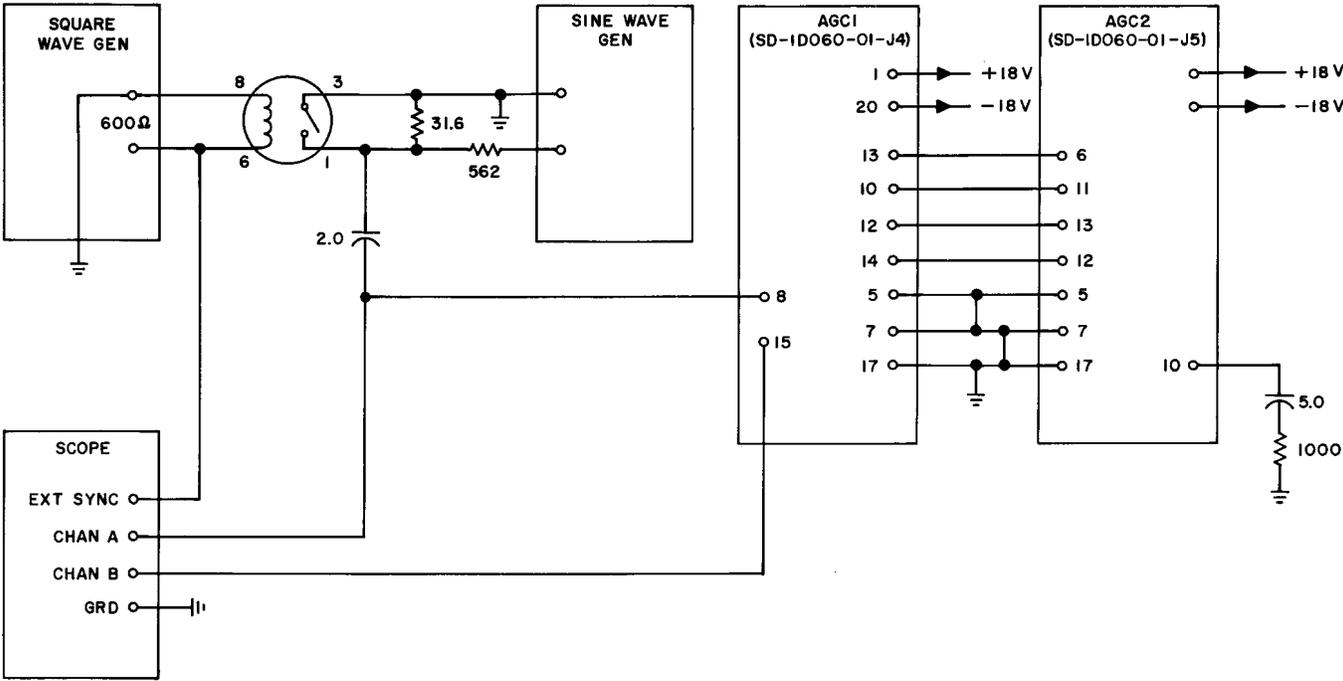
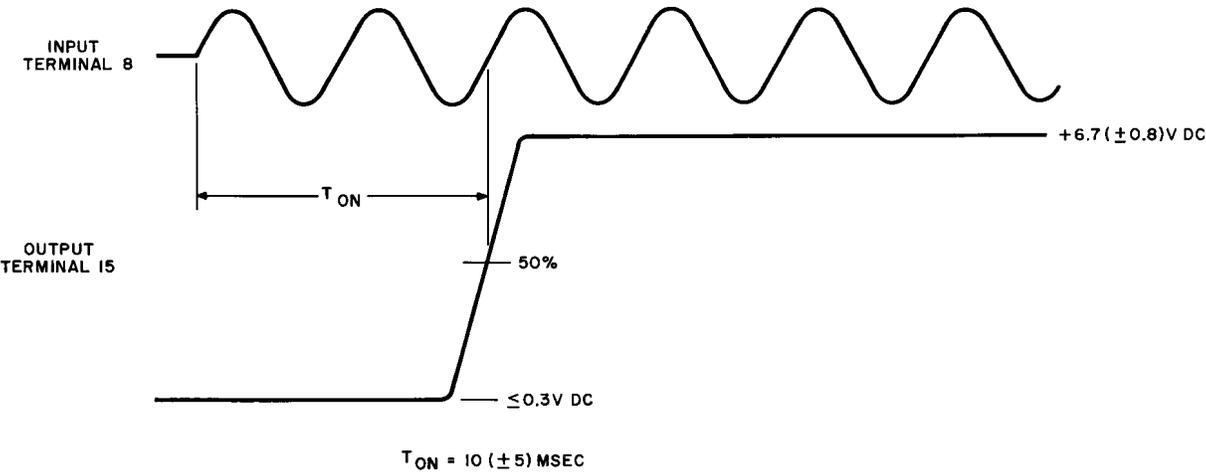

Fig. 22A — Automatic Gain Control 1 Test Circuit
Fig. 23A — Automatic Gain Control 1 Test
(1) The carrier detector response test of the AGC1 circuit pack is made in conjunction with the AGC2 circuit pack. Connect the circuit packs to the suggested test circuit shown in Fig. 22A. Apply power to both circuit packs as in 5.11A (1).
(2) Set the frequency of the square-wave generator to approximately 1 Hz. Set the symmetry control to its center position and the 600-ohm output amplitude control to 0.
(3) Set the frequency of the sine-wave generator to 1800 Hz (± 5 percent). Adjust the generator amplitude control until the input level at terminal 8 of the AGC1 circuit pack is 2 dB higher than the level recorded in 5.12A (3). Set the 600-ohm output amplitude control of the square-wave generator to its center position.
(4) Set the scope EXT SYNC TRIGGER selector to the (+) positive position. The input waveform on terminal 8 of the AGC1 circuit pack and the output waveform on terminal 15 of the AGC1 circuit pack shall be as specified in Fig. 23A.